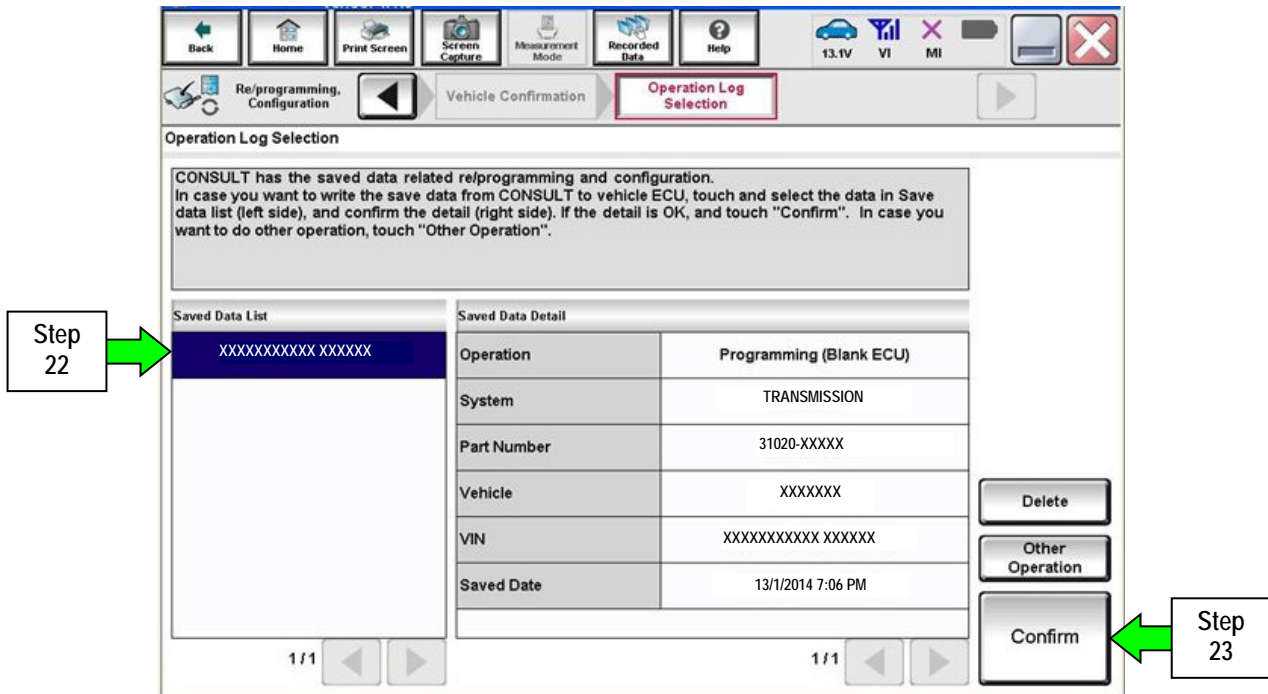

Figure 13
22. Make sure the VIN in the **Saved Data List** (Figure 13) matches the vehicle's VIN.